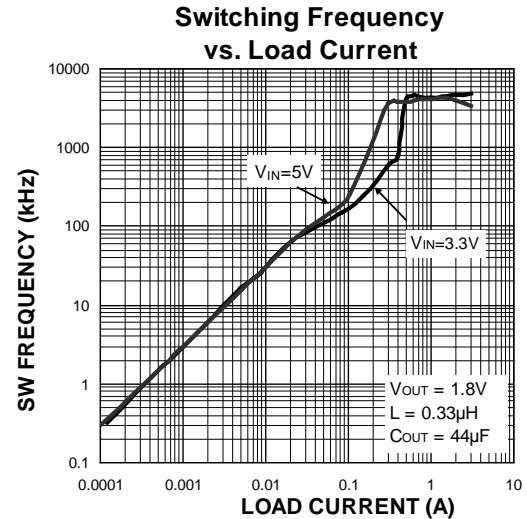

Figure 4. SW Frequency vs. Output Current
As shown in the previous equation, the load at which the MIC23303 transitions from HyperLight Load mode to PWM mode is a function of the input voltage (V_{IN}), output voltage (V_{OUT}), duty cycle (D), efficiency (η), inductance (L) and frequency (f). As shown in Figure 4, as the output current increases, the switching frequency also increases until the MIC23303 goes from HyperLight Load mode to PWM mode at approximately 300mA. The MIC23303 will switch at a relatively constant frequency around 4MHz once the output current is over 300mA.